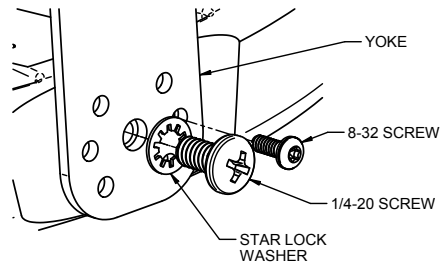

Figure 2
2. Secure Yoke to Housing with (2) 1/4-20 screws and (2) star washers. (See Figure 2)
3. Prevent rotation of the Yoke with (2) 8-32 screws. (See Figure 2)